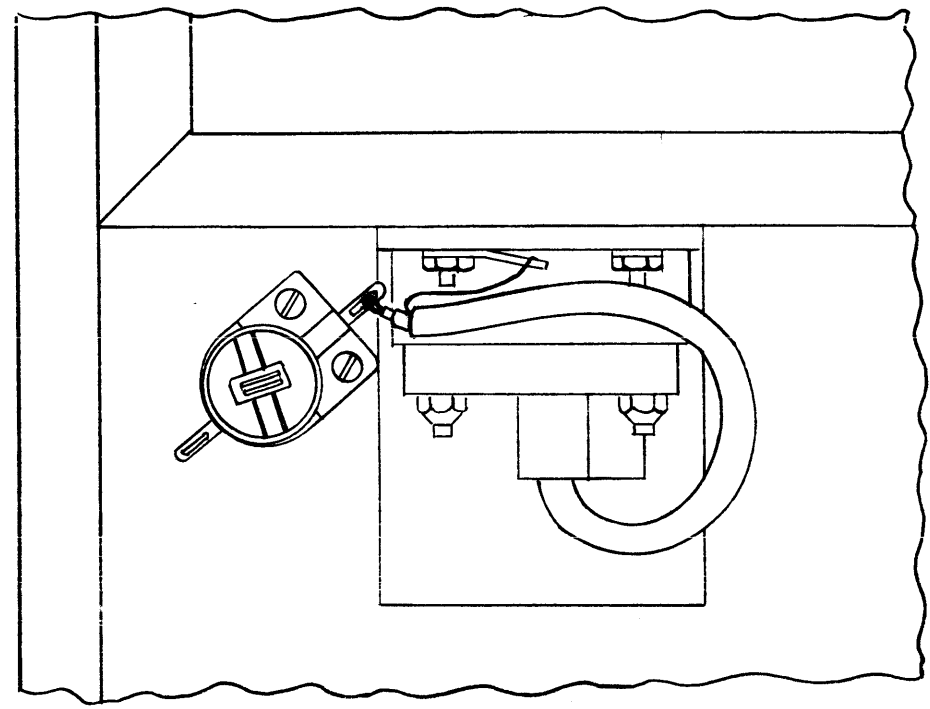

FIGURE 1
2. Remove C100 from present location (See Figure 1)